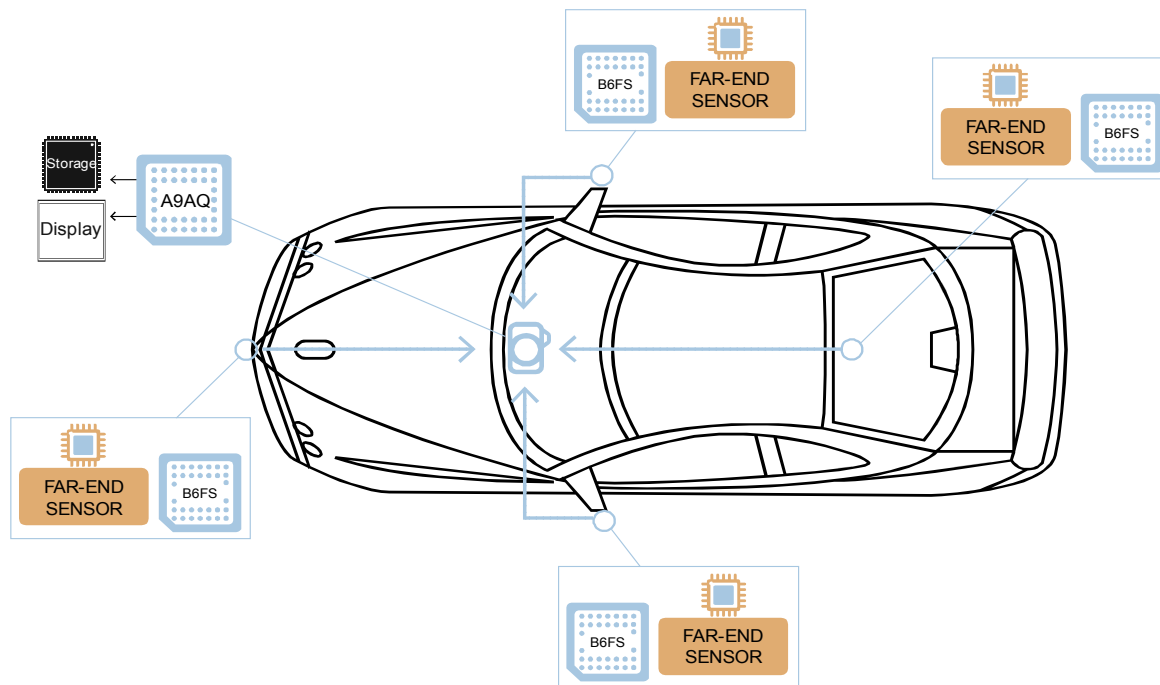
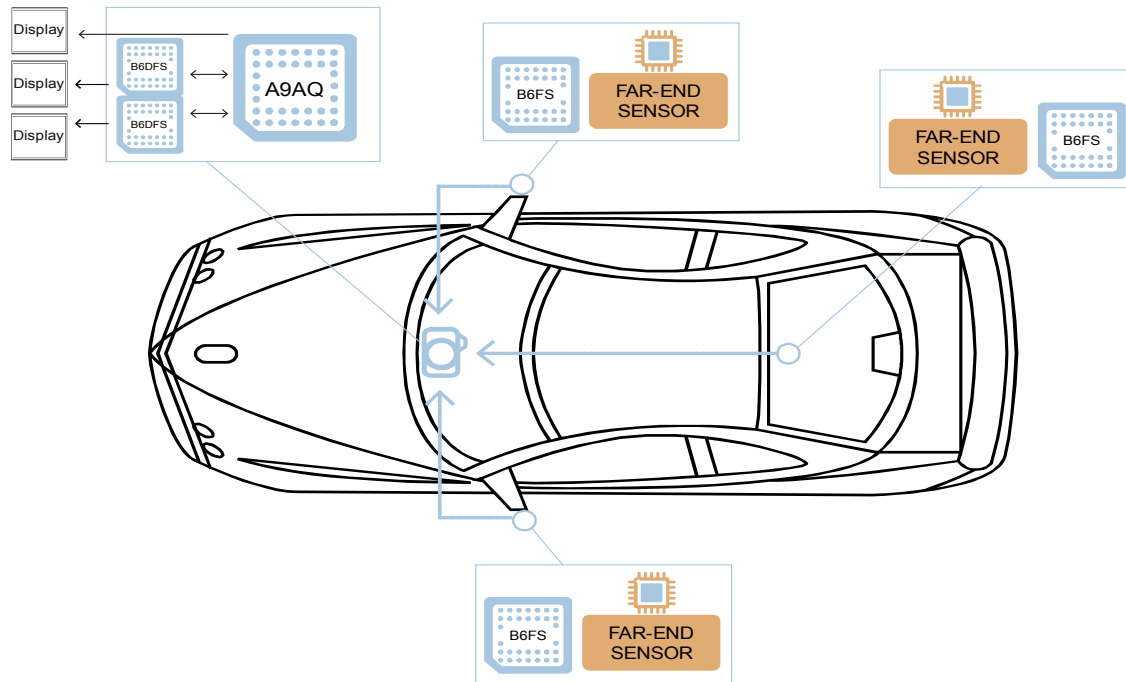
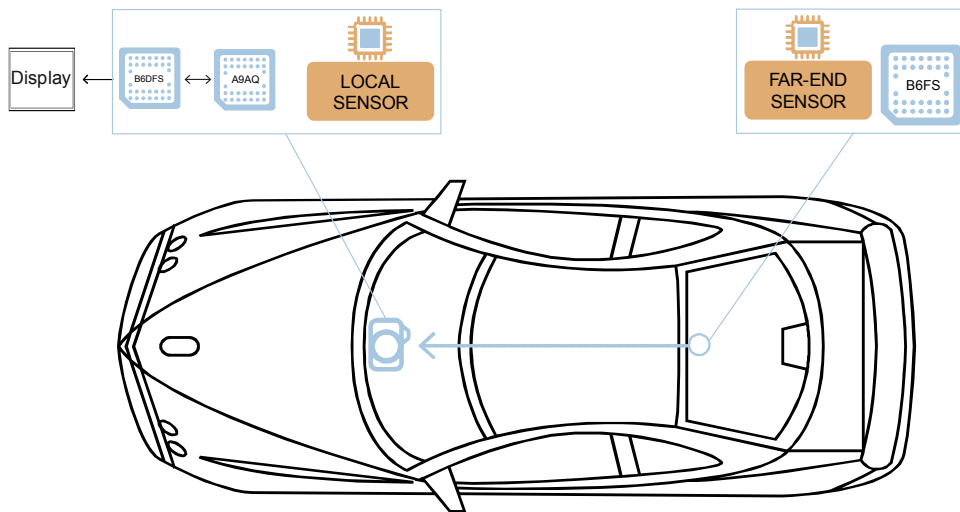

Figure 1-1. Surround View with Recording: Automotive Video Application with an Ambarella A9AQ SoC and Four B6FS Chips.
Figure 1-2. Electronic Mirror: Automotive Video Application with an Ambarella A9AQ SoC, Three B6DFS Chips, and two B6DFS Chips.
Figure 1-3. Two-Channel Recorder: Automotive Video Application with One B6DFS Chip, One A9AQ Chip and One B6DFS Chip.
3. **B6DFS:** (Far-End) The B6DFS chip transfers the SERDES data received from A9AQ in MIPI-DSI- and Open LDI format to connect to remote external displays. Refer to Figure 1-3 below.
The figure on the previous page illustrates a four-channel Surround View system (Figure 1-1), while the figures below represent an electronic mirror system (Figure 1-2) and a two-channel recorder (Figure 1-3).